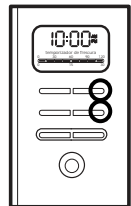

Figure 1
2. Press and hold the hour “Hora” and minute “Min” buttons until you reach the current time. The AM or PM indicator will light at the bottom of the display (Figure 1).